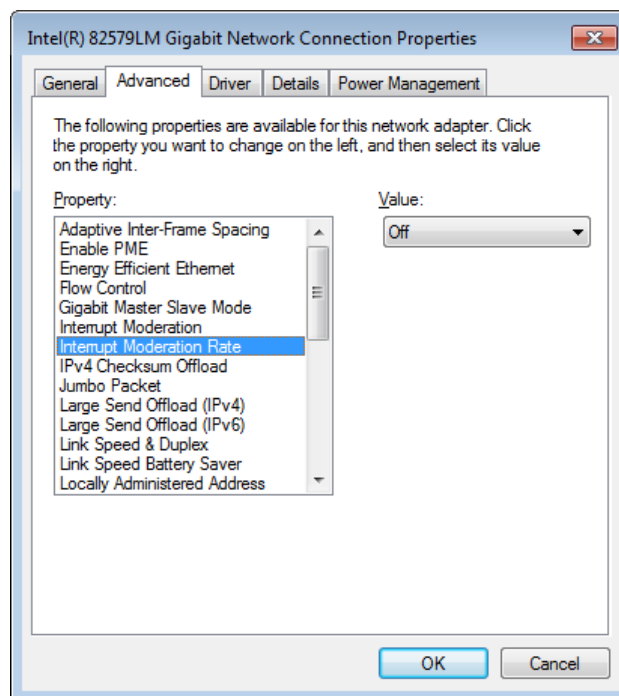

Figure 102: Network interface card - advanced driver settings - Interrupt Moderation Rate
To optimize the latency of the data transmission, it is recommended to disable the *Interrupt Moderation Rate* feature of the network adapter. This feature changes the way of interrupt generation by an incoming packet and makes it possible to reduce the delay in the processing of incoming Ethernet packets. It is usually accessible via the identically named property in the advanced driver settings of the NIC, shown in Figure 102.
4. The settings of the driver can be accessed by choosing the *Advanced* tab of the opened window. As shown in Figure 102, set the value of the *Interrupt Moderation Rate* property to *Off* or *Disabled*.